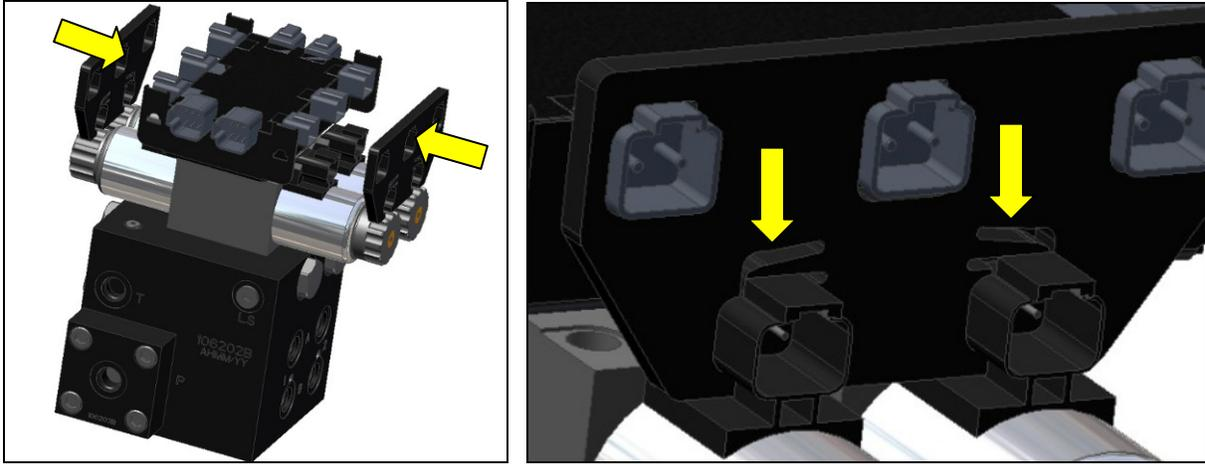

Figure 17: Valve Module Bracket Installation
3. Place the valve module between the valve coils. Slide a valve mounting bracket over the connectors of the valve module and the valve coil connectors. This may require flexing the plastic bracket slightly (Figure 17).